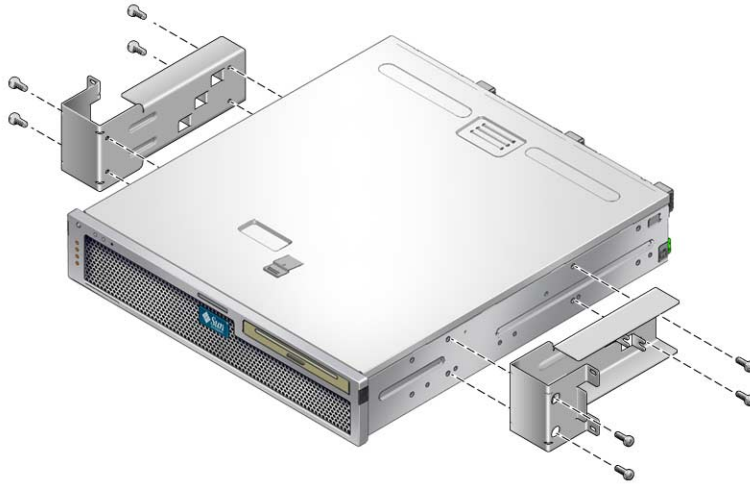

FIGURE 3-2 Securing the Side Brackets to the Side of the Server
2. Use four of M5 x 7 SEM screws for each side bracket, secure the side brackets to the sides of the server (FIGURE 3-2).